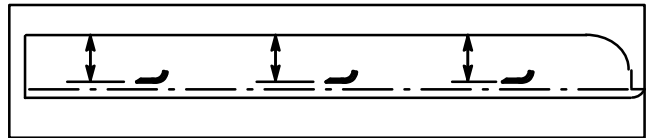

Figure 26
2. Rotate blade until the ends face forward and backward. Measure from inside of cutting unit to cutting edge at front of blade (Fig. 26), and remember this dimension.